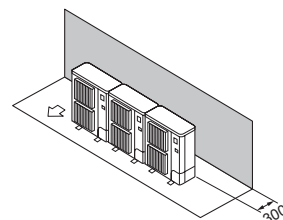

Fig. 2-13
- (1) Obstacles at rear only (Fig. 2-13)